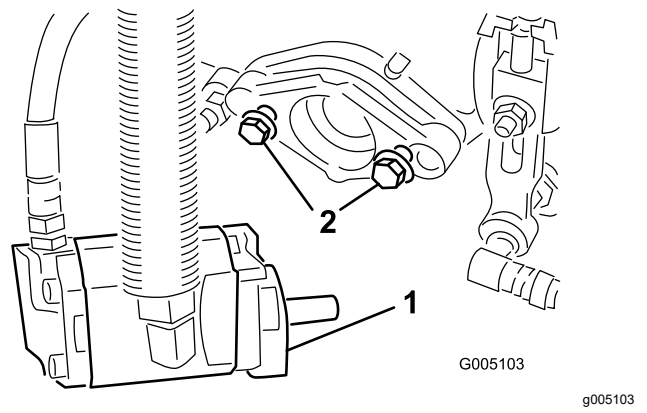

Figure 9
- Ensure that there is approximately 13 mm (1/2 inch) of threads exposed on each reel drive motor mounting bolt (Figure 9).